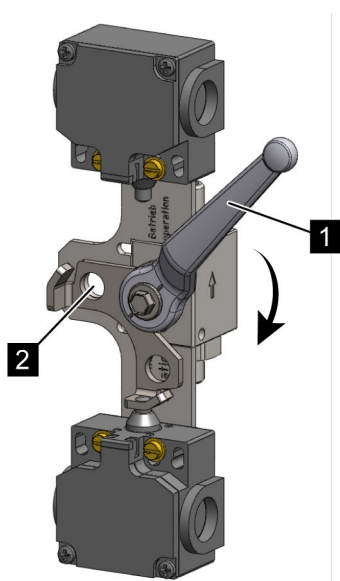

Fig. 19: Blocking device (optionally with 1 or 2 limit switches)
3. ► Turn the ball valve (Fig. 19/1) of the blocking device as far as it will go in clockwise direction (Fig. 19/arrow).
4. ► Hook the padlock into the locking eye (Fig. 19/2) of the blocking device and lock it.